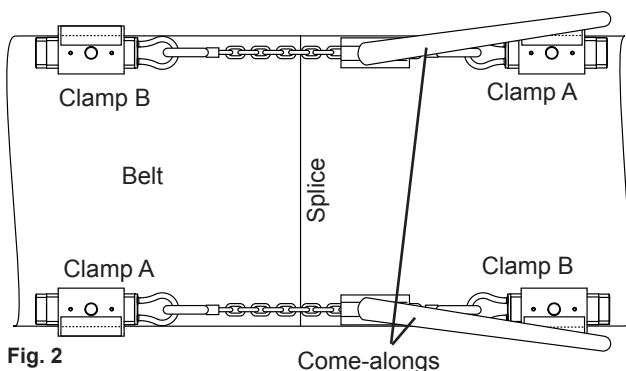

Fig. 2
- a. **Clamp-To-Clamp (preferred method):** Attach come-alongs to pull loop of clamps across the splice (See Fig. 2).